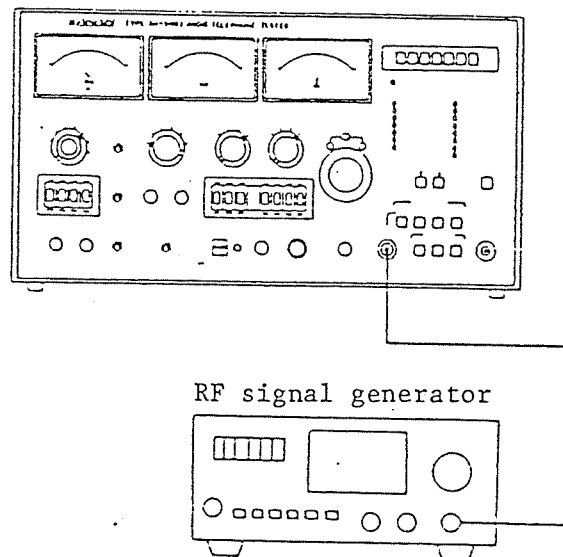

Fig. 3-22 Frequency accuracy test
- (1) Connect a RF signal generator to the [EXT INPUT] connector of frequency counter of this apparatus as shown in Fig. 3-22.
- (2) Set the controls of this apparatus as follows: